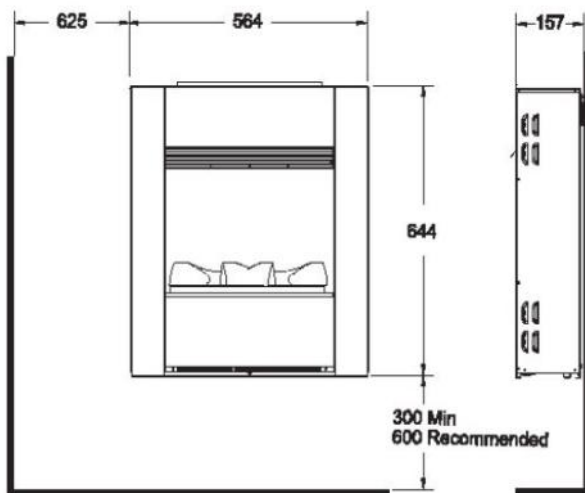

Figure 1- Installation dimensions
2. Remove the back wall bracket of the appliance by removing the two screws with which the wall bracket is fixed. From the ground to the appliance there should be a minimum distance of 300 to 600mm, the distance to a side wall should be at least 625mm and from the top of the appliance to a shelf the distance should be 150mm (Figure 1);